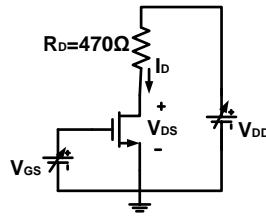

Figure 6: Basic NMOS circuit for observing its operation and characteristics.
1. Construct the circuit as shown in figure 6 to determine  $V_{th}$ .